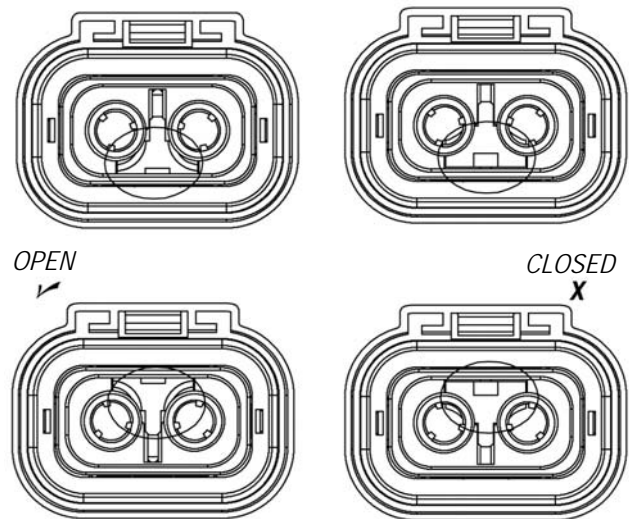

Figure 16
1. Make sure that connector terminal secondary lock is in the open position as shown in Figure 16.
The inner housing, shield, and secondary lock can all be reversed as shown in Figure 16.